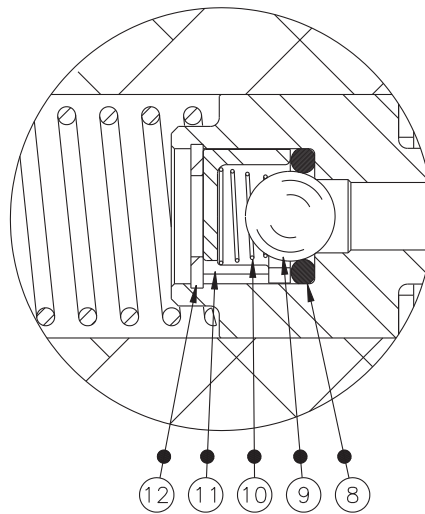

Figure 4b
9. Install new o-ring (8), new ball (9), new tapered spring (10), new cage (11), and new retaining ring (12) in piston (7). Note direction of cage (11) and spring (10). See Figure 4b.
10. Install spring (14), piston assembly (13), and new retaining ring (6) in piston (16).
11. Install piston assembly (18) and spring (5) in housing (23). Note direction of piston assembly.
12. Install new seat (2) in new retainer (3) and install in end plug (1). Torque retainer 16.3-19.0 N·m (12-14 lb·ft).
13. Install new o-ring (4) on end plug (1) and install end plug in housing (23). Torque 33.9-47.5 N·m (25-35 lb·ft).
14. Install new o-rings (24) on new adapters (25) and install adapters in housing (23). Torque adapters 61.0-67.8 N·m (45-50 lb·ft). Be sure to install the correct adapters for your model. **NOTE: Not all models use adapters (25) or o-rings (24).**